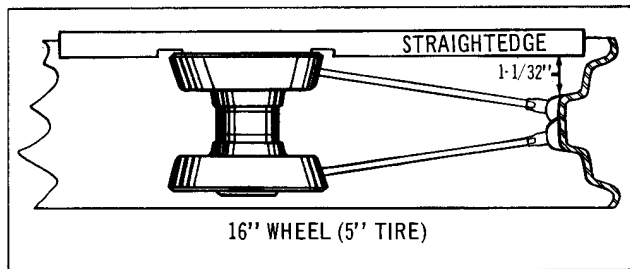

Figure 2-9. Centering Wheel Rim - 16 Inch
5. Rim must be properly centered sideways in relation to hub for correct alignment and "tracking" of front and rear wheels. Figure 2-9 and 2-9A show method of using a straightedge to determine correct sideways centering of wheel rims as specified. Place straightedge across hub on brake side and measure the distance from straightedge to rim well as shown.